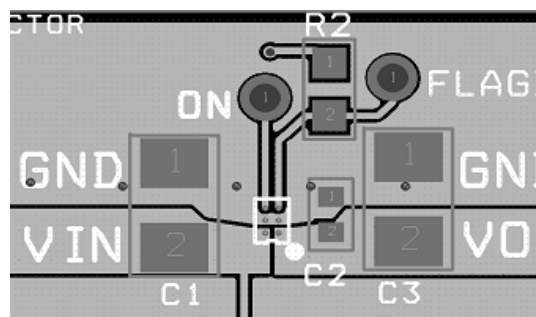

Figure 24. FPF202X proper layout
- The V_{IN} , V_{OUT} and GND pins will dissipate most of the heat generated during a high load current condition. Using wide traces will help minimize parasitic electrical effects, along with minimizing the case to ambient thermal impedance. The layout suggested in Figure 24 provides each pin with adequate copper so that heat may be transferred out of the device as efficiently as possible. The low-power FLAGB and ON pin traces may be laid-out to maximize the area available to the ground pad.